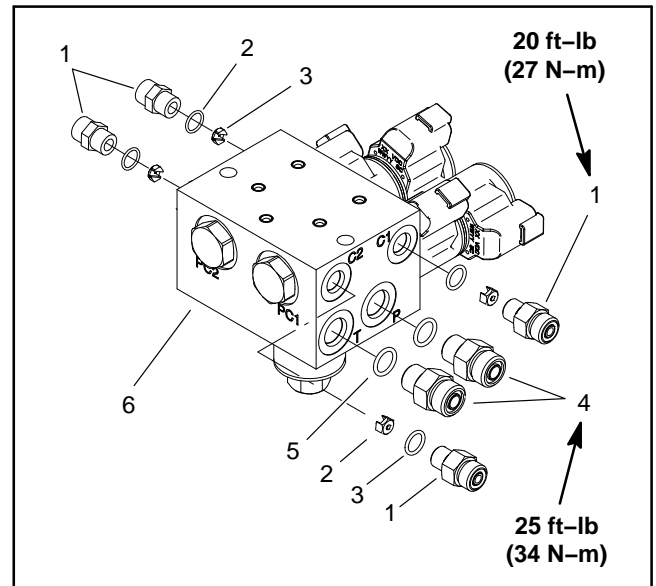

Figure 36
7. If necessary, remove fittings and flow control orifices from control manifold and discard O-rings (Fig. 36).
1. If fittings were removed from control manifold, lubricate and place new O-rings onto fittings. Install fittings into control manifold port openings (Fig. 36).
2. Position boom lift control manifold to manifold mount plate. Secure manifold to plate with two (2) cap screws and flange nuts.